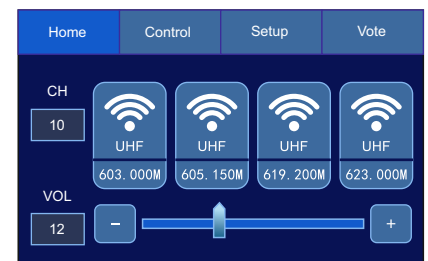

Figure 4.1 Main Screen
A) Home: Channel Groups, UHF State & Master Volume (Figure 4.1)